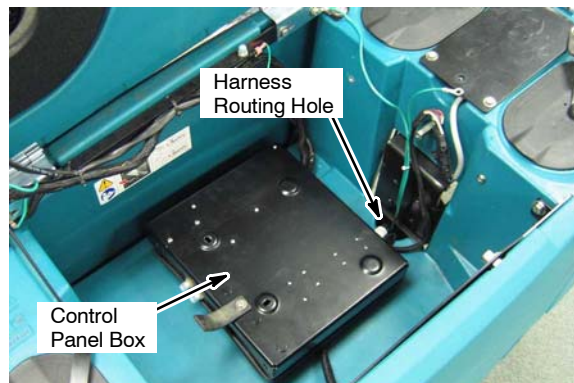

Fig. 3
1. Unfasten the control panel box from the battery compartment to access the harness routing hole (Figure 3). Do not disconnect any of the wiring.